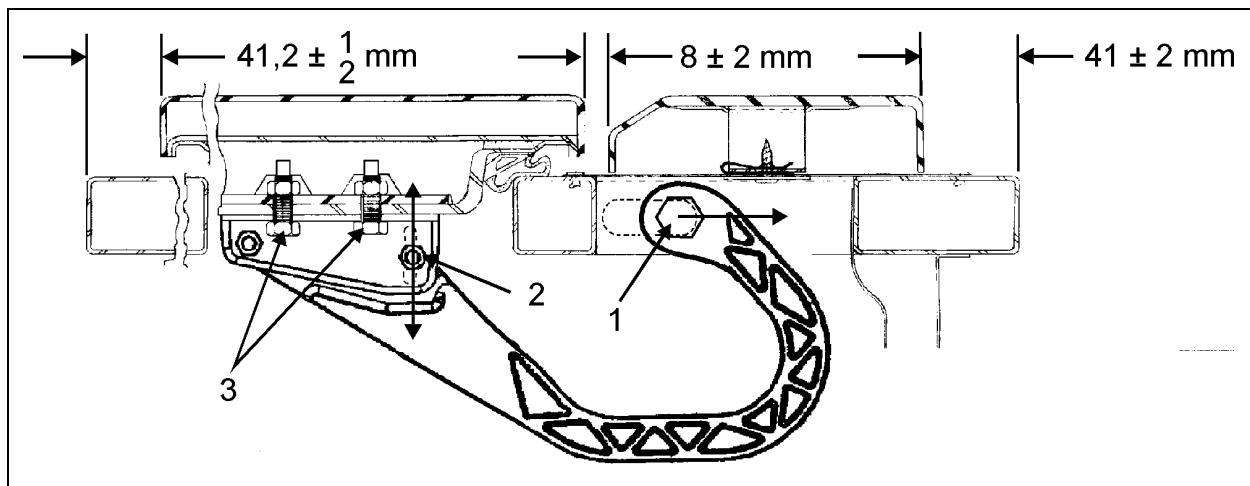

FIGURE 38 : EVAPORATOR DOOR
2. Loosen nut (1, Fig. 38). Move the hinge as shown in figure. Tighten nut (1, Fig. 38).
3. Loosen nut (2, Fig.38). Hinge allows the door to be shifted "IN or OUT" and "LEFT or RIGHT". Adjust the door in accordance with the required distance between exterior finition parts (Fig. 18).
4. Loosen the screws (3, Fig. 38). Screws allows the door to be shifted "UP or DOWN". Adjust the door position according to the distance needed between exterior finishing parts (Fig. 18). Tighten the screws.